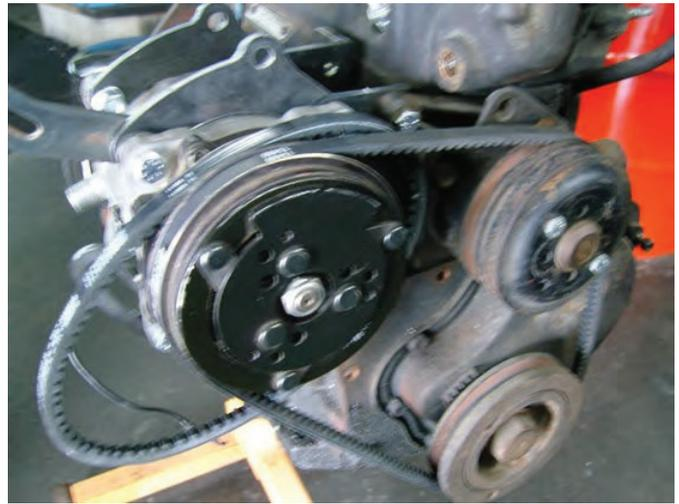

Figure 4
4. INSTALL BELTS AS SHOWN IN FIGURE 4.